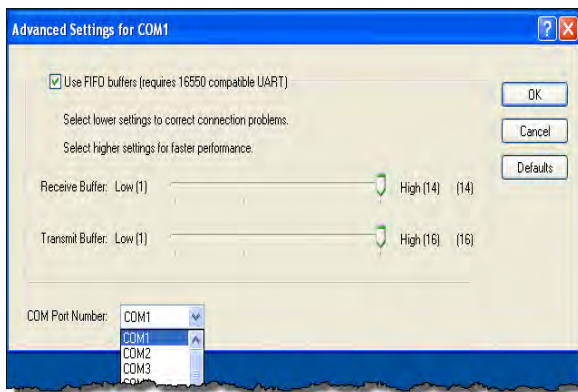

Figure 7
8. In the Advanced Settings window, click the down arrow on the **COM Port Number** box and select **COM1**. (Figure 7)